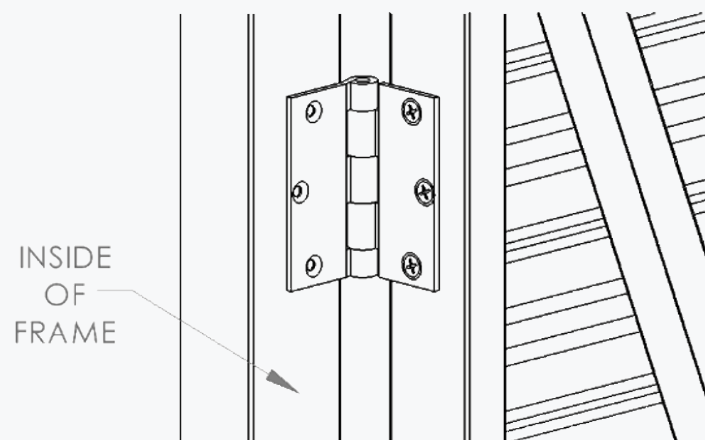

figure 2
- ✦ Open the hinges, so the free leaf is against the inside of the frame. **See Figure 2.**